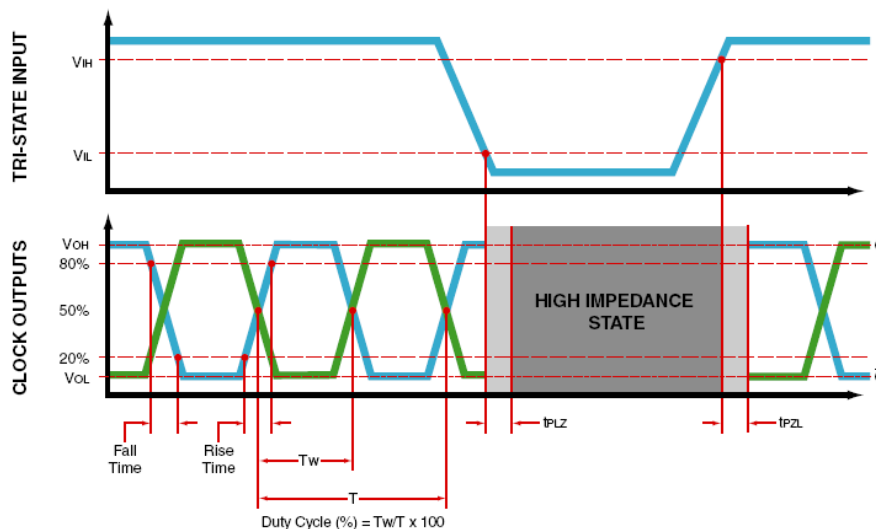

Figure 1: Tri-State Output Timing Diagram
If the Standby (ST) option is selected, all active circuitry within the oscillator is shut down when the voltage at the control pad (pad 1) is set to a logic low state. In this condition (Figure 1), the output signal is three-stated (tri-state). The oscillator output gate becomes high impedance and the oscillator input current on the power supply line is negligible. The maximum Standby (ST) current is listed on the applicable Ecliptek datasheet. If the voltage at the control pad is set to no connect or a logic high state, the output is enabled (clocking).
If the Output Enable (OE) option is selected, only the output circuitry within the oscillator is shut down when the voltage at the control pad (pad 1) is set to a logic low state. In this condition (Figure 1), the output signal is three-stated (tri-state). The oscillator output gate becomes high impedance and the oscillator input current on the power supply line is only slightly decreased from normal operating current. The maximum Output Enable (OE) current is specified on the applicable Ecliptek datasheet. If the voltage at the control pad is set to no connect or a logic high state, the output is enabled (clocking).